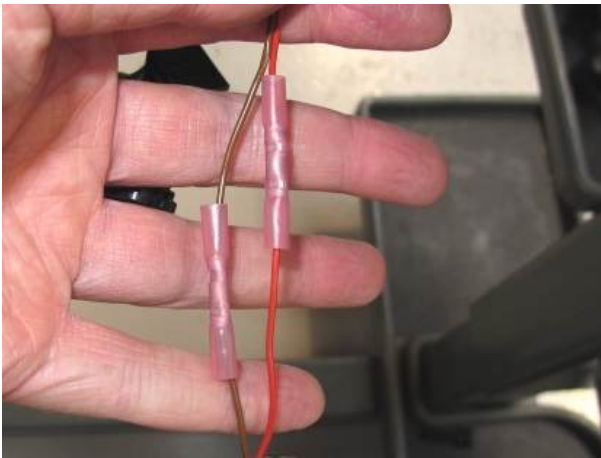

Figure 19
6. Using a red connector insert the cables as Figure 19 into the relevant ends and crimp the connector ends using special tool WT 10078/1, ensure the red crimping jaw of the crimp tool is used, align the jaw so the crimp action is applied to the centre of one half in the splice feral